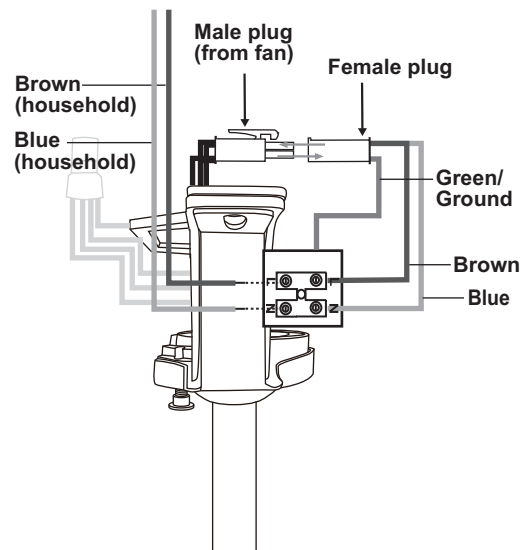

Figure 8
2. Be sure to snap together the male and female plugs. (Fig. 8)
3. Connect the blue, neutral household neutral wire to the terminal block “N” hole. Connect the brown household wire to the terminal block “L” hole. (Fig. 8)